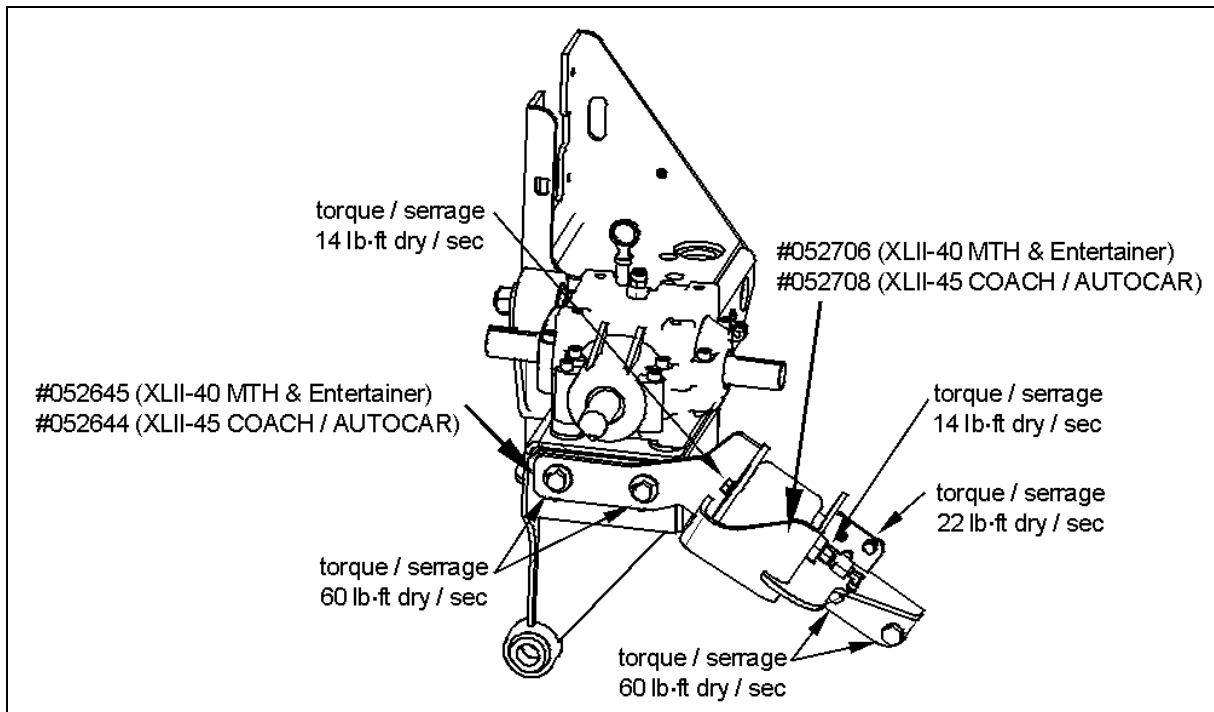

FIGURE 6
28. Fasten the attachment brackets fixing bolts in order to install the new 4-inch air bellows (550840) located near gearbox. Fasten bolts according to tightening torques indicated in figure 6.